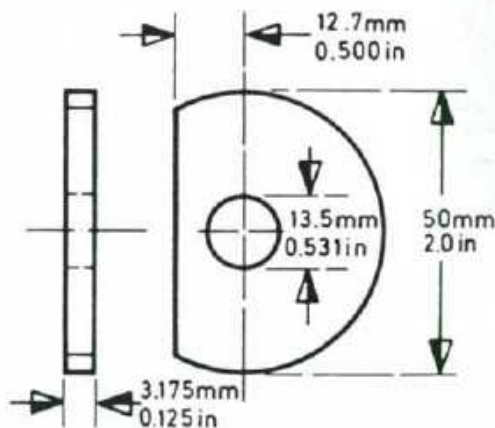

Fig. 138—Make up two flat washers to the dimensions shown.
When reassembling, it will be necessary to determine shims (15) needed for preload of planet gear bearings (16) as follows: Using two flat washers made up to dimensions shown in Fig. 138, and a 1/2 x 3